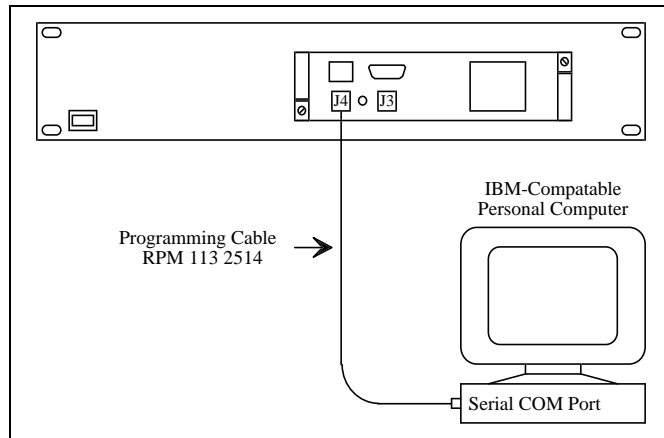

Figure 4 - SIM Programming Setup
2. Connect PC (or Terminal): Connect the supplied programming cable (Ericsson # RPM 113 2514) from J4 on the front of the SIM to the serial COM port of the PC (or terminal), as shown in Figure 4. If the serial COM port of the PC (or terminal) is not equipped with a male 9-pin, D-subminiature (DB-9) connector, a customer-supplied adapter will be required.